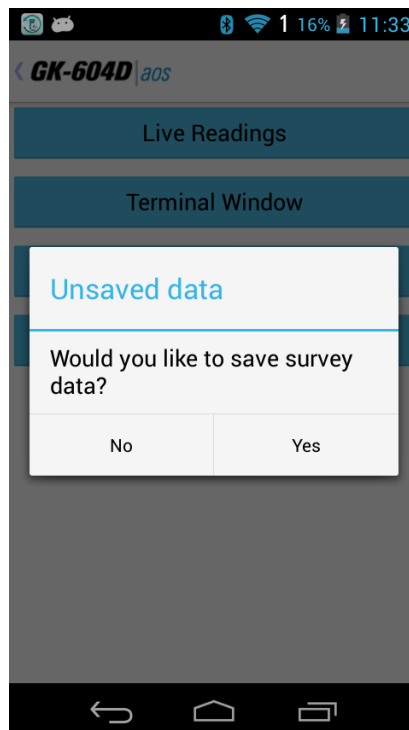
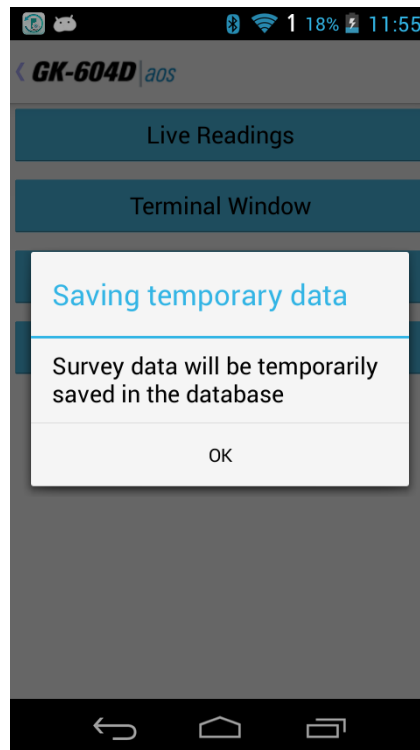
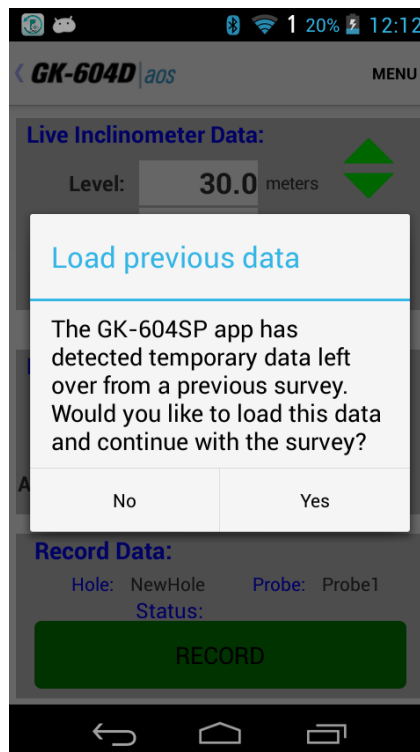

Figure 39 - Unsaved Data Prompt
Figure 40 - Saving Temporary Data
Figure 41 - Load Previous Data Prompt
- When done taking readings, tap GK-604D|aos to dismiss the screen. The application will detect if readings have been recorded and if so, an opportunity to save the readings will be presented to the user (Figure 39).
- Even if “No” is selected from the Unsaved Data Prompt (Figure 39), the readings will be saved to a temporary database table and can be restored the next time “Live Readings” is entered (see Figure 40 and Figure 41).
- If “Yes” is selected from the Unsaved Data Prompt (see Figure 39), then the readings will be saved to the database and the survey will be saved with the name given to it in the Survey Metadata Settings (see Section 3.2.1.1, Survey Metadata topic). If no name was entered in the Survey Metadata Settings, the survey will be saved using a three-digit numerical suffix combined with the “Hole” name. For example, if there were four previous surveys saved for a hole with the name of “HL123_Dam75”, the new survey would be named: “HL123_Dam75_005”.